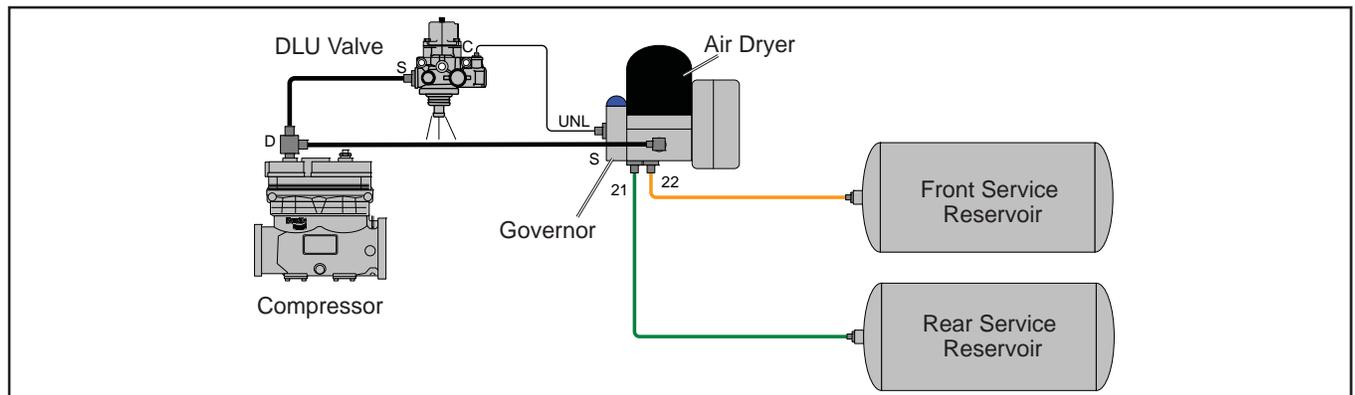

FIGURE 6 - TYPICAL 360 (DLU) COMPRESSOR AIR CHARGING SYSTEM
This Bendix® 360cc compressor is a “discharge line unloader” (DLU) style compressor, meaning that the compressor pumps continuously, unlike some compressor designs which use an “unloader” mechanism in the compressor head to switch from a pumping mode to a non-pumping mode. Instead, the control of air delivery to the vehicle’s air system is managed by using a separate discharge line unloader valve mounted in parallel with a turbo cut-off style of air dryer (see Figure 6).
(REFER TO FIGURE 6)
Note: The 360cc (DLU) style single cylinder compressor does not contain components to unload the compressor. Therefore, the compressor pumps continuously. In most systems supplied by International, a turbo cut off style air dryer, governor and discharge line unloader valve are used to unload the system (i.e. air is not being delivered to the brake system reservoirs). When system unloading occurs, air from the compressor will flow out the exhaust port of the discharge line unloader valve. Refer to Figure 6.
1. Make certain the unloader system lines (illustrated in Figure 6) are connected and leak free.